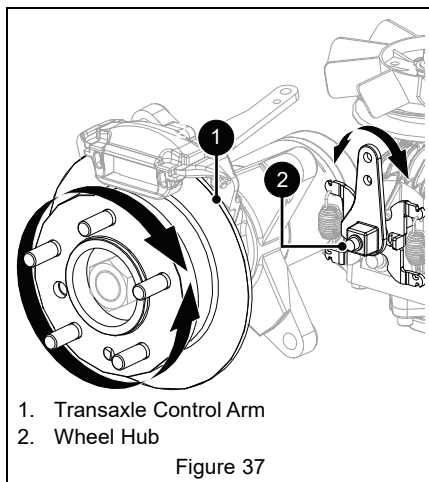

Figure 37
7. **Technician:** Slowly turn transaxle control arm in the opposite direction of hub rotation until hub stops. See Figure 37.